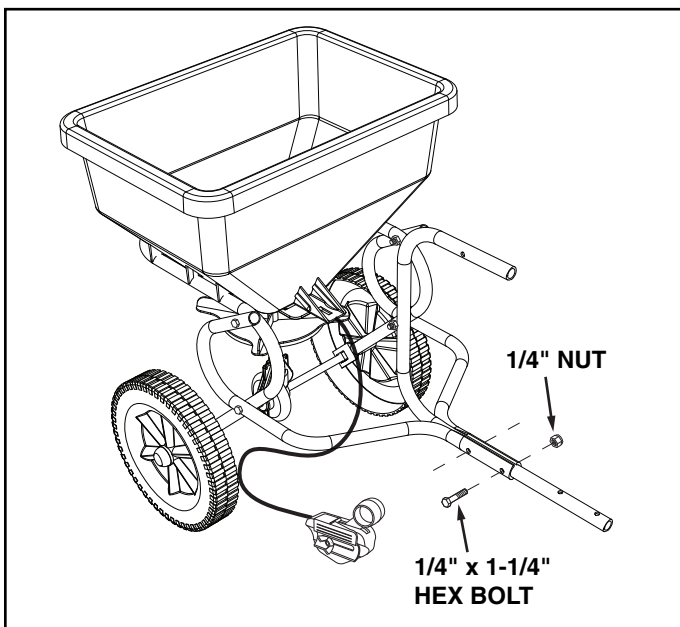

FIGURE 2
3. Assemble the Hitch Control Tube between the Hitch Tubes using two 1/4" x 1-1/4" hex bolts and 1/4" nuts. **Tighten all bolts and nuts.** See figure 2.